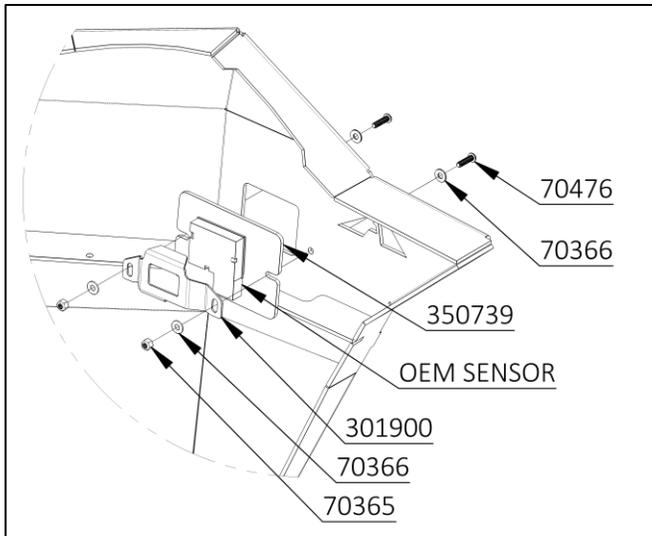

Figure 17: Side Guard Assist Install
23.  On each side of the van, install the side guard assist, SIDE GUARD ASSIST SENSOR HOUSING, and the ACRYLIC SENSOR WINDOW to your ALUMINESS FRONT BUMPER using 1/4-20 X 1 BHCS, washers, and locknuts. **See Figure 17.**